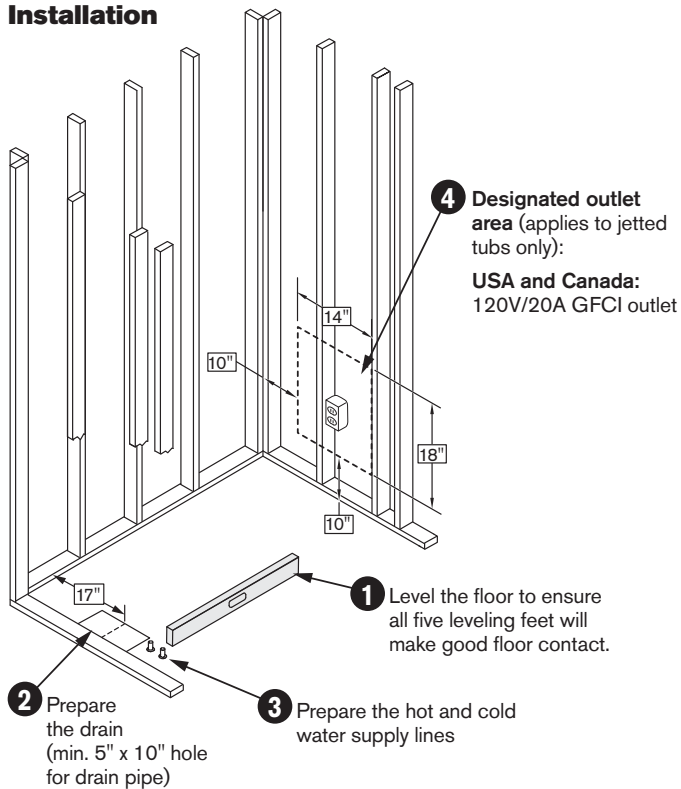

Figure 6
- See Figure 6 for cutting dimension limitations.